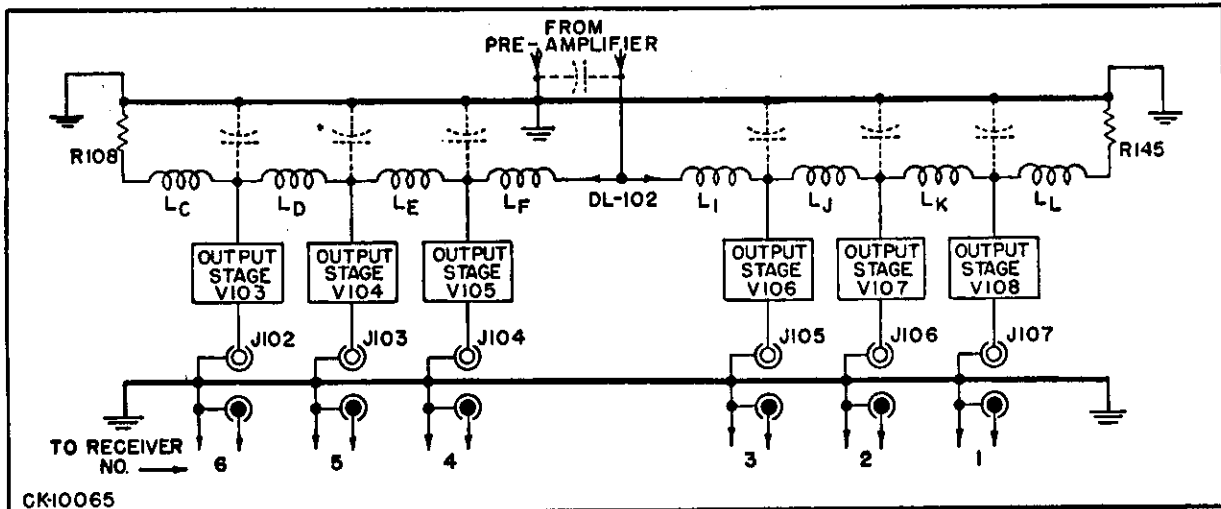

Figure 2-2. DISTRIBUTION SYSTEM
b. In order to provide multiple outputs for the operation of several receivers, the distribution system shown in Figure 2-2 is used. The output signals from the pre-amplifier are fed into the mid-section of an artificial line DL102. They are transmitted by the line to the terminating resistors, R108 and R145. Input to the final stages is obtained by tapping the line in a parallel manner. Capacity elements of the line are formed by the input capacity of the output tubes.